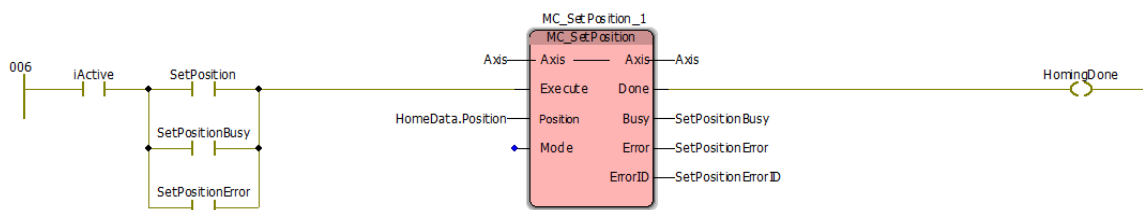
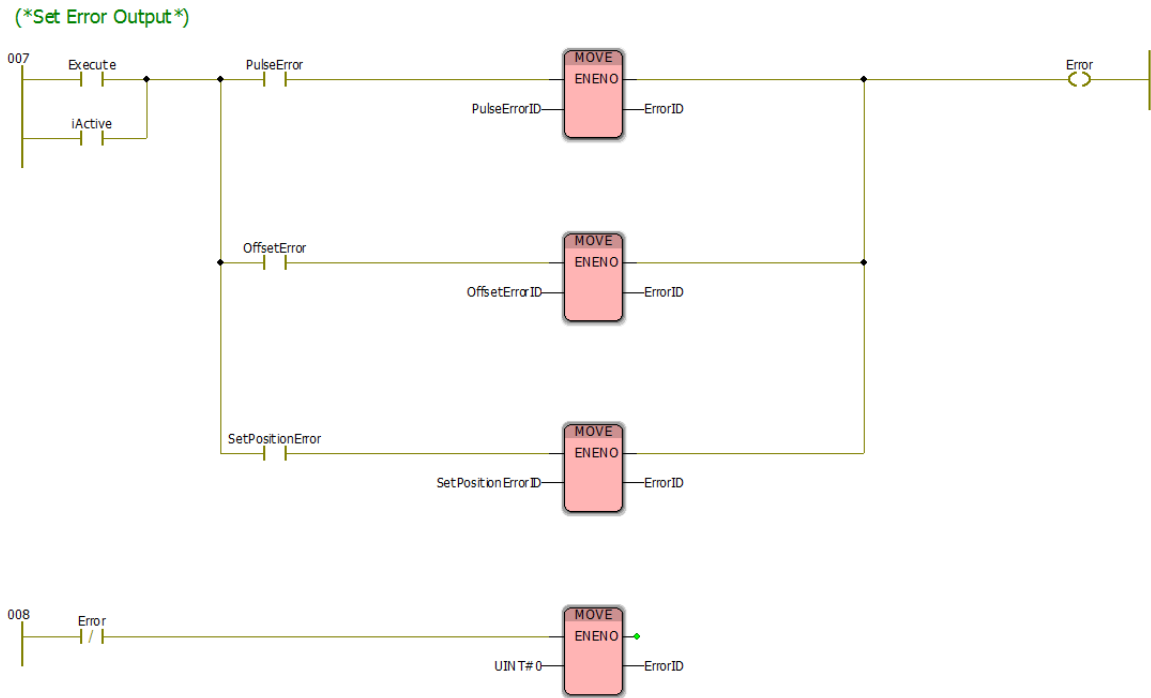

Figure 16: Execute Model – LD example showing a function block's Error output used to hold its Execute high.
Figure 17: Execute Model - Example in LD showing the Error processing code.
**TIP:** There may be more than one **Error** present in the function. Because the IEC code executes from top to bottom, the last instruction to write to a variable will provide the resulting value. In the case of reporting **ErrorIDs**, you may want to prioritize the errors so that the most important or relevant **ErrorID** is output in the event of multiple errors. This means arranging them in increasing order. See Figure 17 and Figure 18 starting on page 17.
The first graphic shows an error being set by a sub function used within the function block. Notice the variable SetPositionError. The example shown in Figure 16 might exist in the Main Code Body. The example shown in Figure 17 demonstrates the Error processing code which comes below the Main Code Body. Recall the Execute Template overview on page 7 for reference.
Figure 17 shows the Error handling code. If simultaneous errors may occur, consider prioritizing them so the last MOVE instruction copies the ID of the most important error to the **ErrorID**.